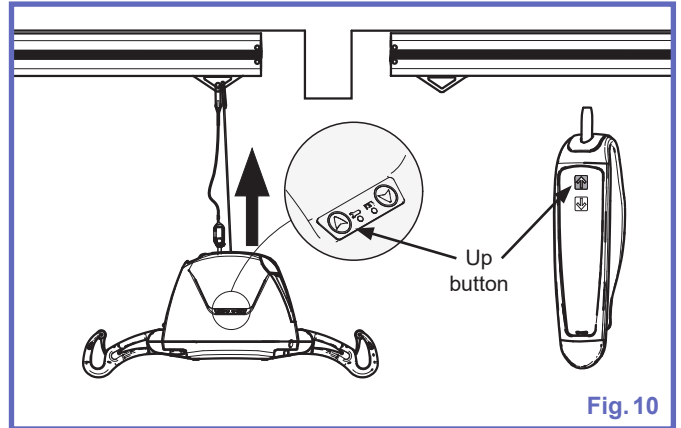

Fig. 10
- 5) Hook the portable lift's carabiner to the second trolley. Press the UP button on the hand control until the extension strap become slack, and the patient is at a comfortable height (see Fig. 10).